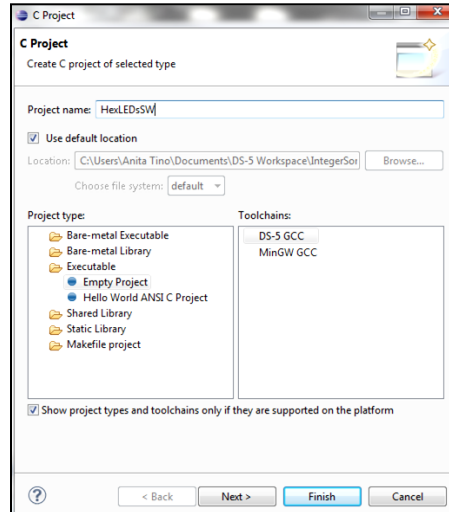

Fig. 8: Creating a New Project in DS-5
3. Create a new project by selecting "New" – "C-Project". A window will show up. In the Project type window select "Executable" – "Empty Project". Under Toolchains ensure the "DS-5 GCC" compiler is chosen. Name the project HexLEDsSW, ensure that your default project location is correct, and that your project specifications are identical to Fig. 8. Press Finish. Your workspace will appear.